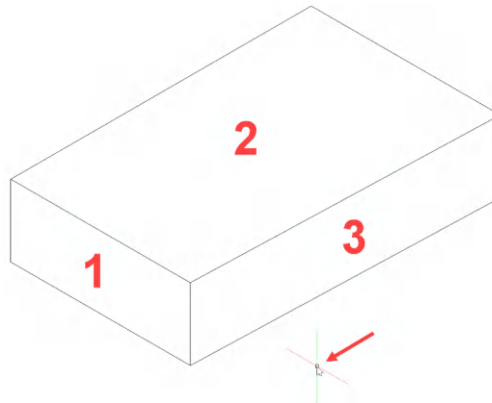

Figure 4.10: A simple rectangular 2D isometric view with the isoplane Left mode selected (note the cursor display)
*Figure 4.10* shows a simple 2D isometric view of what would be a 3D rectangular solid:
Only the **Line** (*LINE*) command was used to create the view with a little bit of help from object snaps (*OSNAP*). The isometric view in *Figure 4.10* is purely made up of line segments drawn at the isometric angles *ISODRAFT* provides. After the first line segment has been drawn (which could be any of the lines shown), with *ISODRAFT* on, the remaining lines can easily be drawn at the appropriate angles using object snaps (*OSNAP*) to snap to the relevant endpoints of each line drawn in sequence.